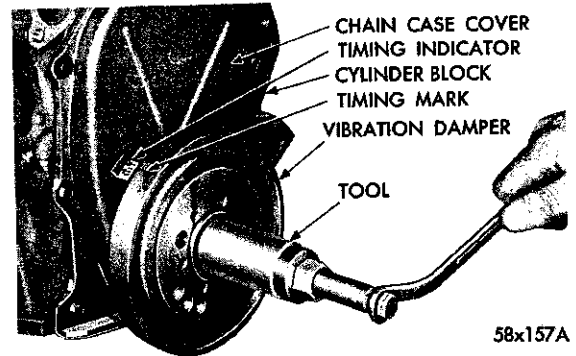

Fig. 27—Installing Vibration Damper Assembly
(2) Place the installing tool, part of puller set Tool C-3688 in position and press the damper on the crankshaft (Fig. 27).
(3) Install the damper retainer washer and bolt. Tighten to 135 foot-pounds torque.
(4) Slide the belt pulley over the shaft and attach with bolts and lockwashers.
(5) Tighten the bolts to 15 foot-pounds torque.